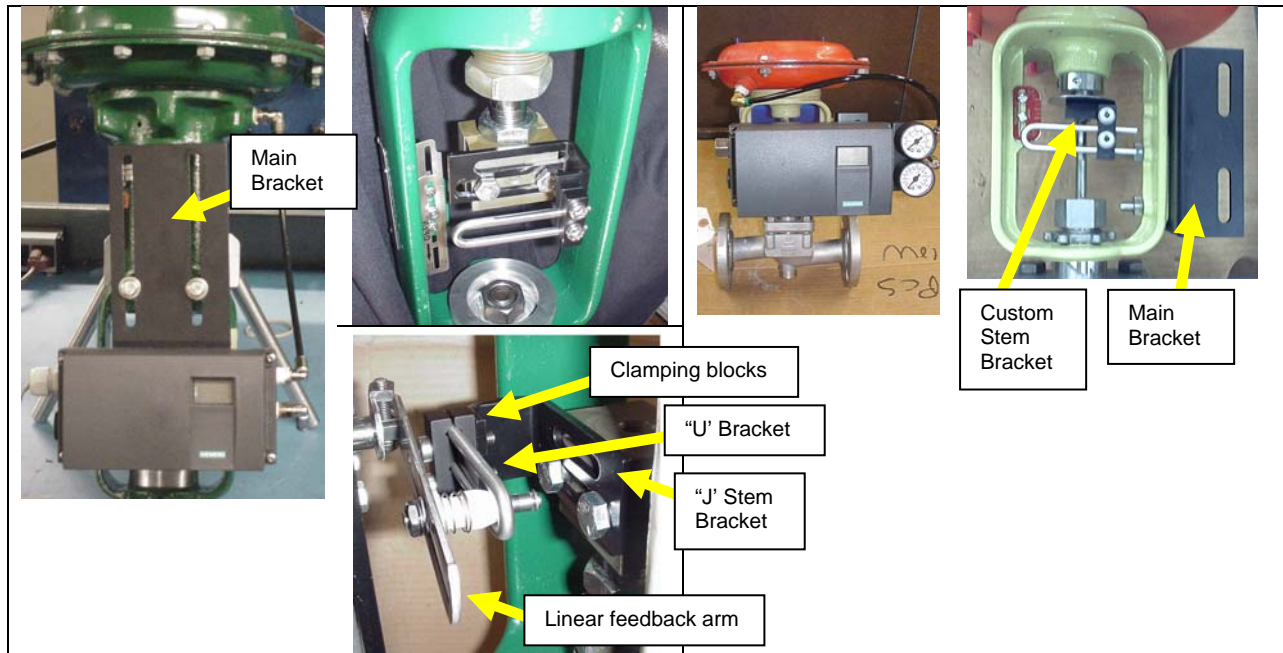

FIGURE 2 Rising Stem (Linear) Examples
Rising stem actuators have many variations, requiring a wide assortment of mounting kits. See Figure 2 for two examples.
1. Attach the linear feedback arm to the PS2 shaft. See Figure 2.
2. Attach the “U” bracket to the actuator stem; see Figures 2 and 3. If provided, use the “J” bracket or the custom stem bracket provided in the kit. The “J” bracket offers great flexibility in positioning of the “U” bracket as shown below:
A custom stem bracket, like the one shown in the right-most detail in Figure 2, is installed by tightening it between two nuts on the actuator shaft.